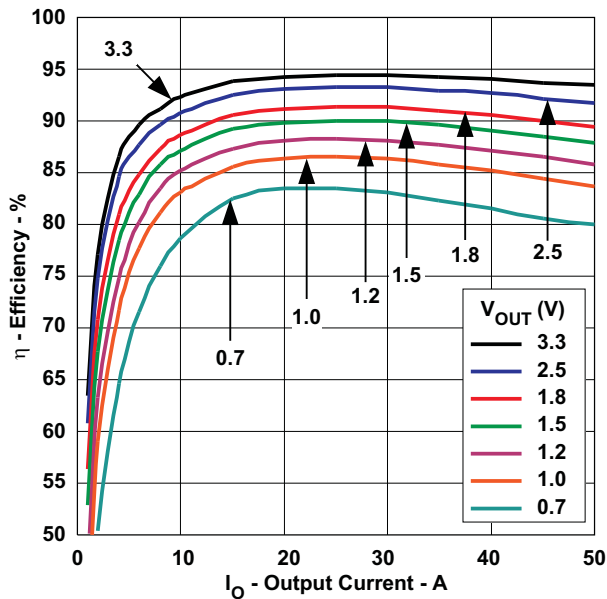
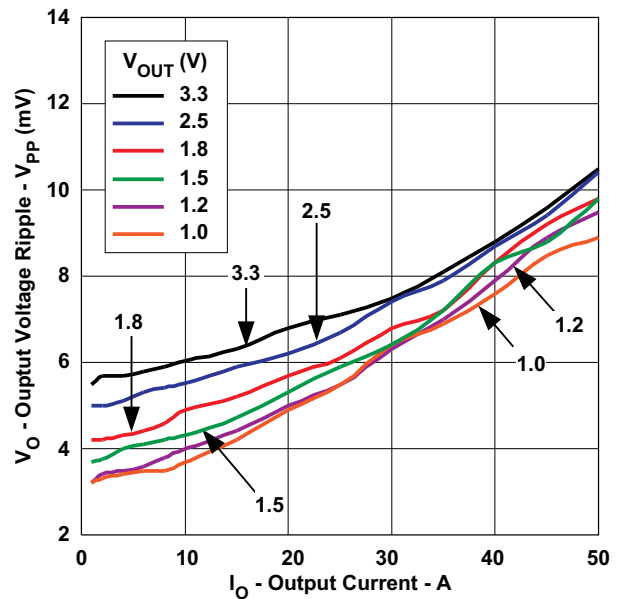
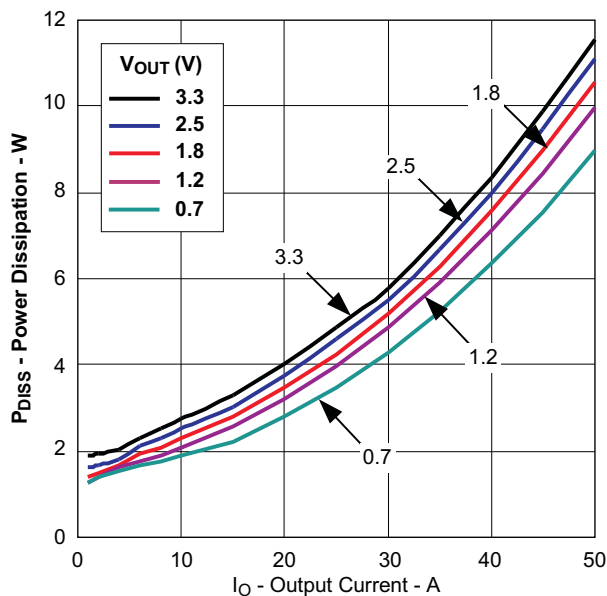

Figure 1. Efficiency vs. Output Current
Figure 2. Output Ripple vs. Output Current
Figure 3. Power Dissipation vs. Output Current
(11) The electrical characteristic data has been developed from actual products tested at 25°C. This data is considered typical for the converter. Applies to Figure 1, Figure 2, and Figure 3.